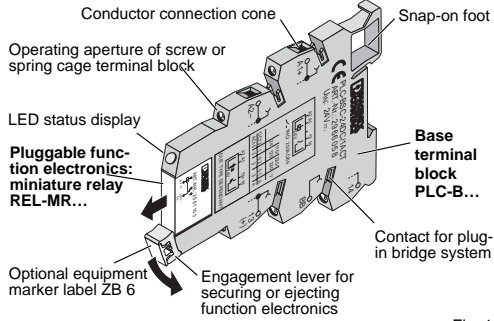

Fig. 1
- REL-MR..., the pluggable miniature relay (see fig.1).